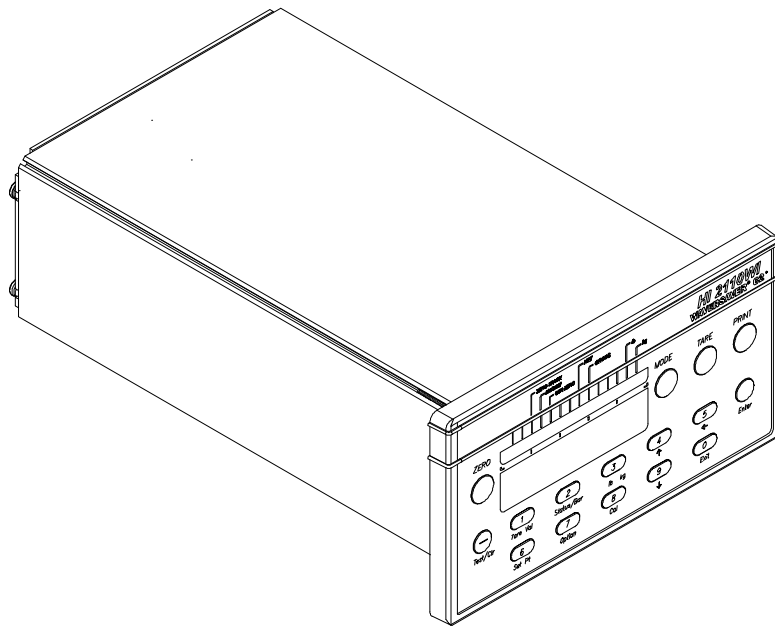

FIG. 1-1 WEIGHT CONTROLLER
The HI 2110WI is a compact, multipurpose, microprocessor based weight Controller. (See Fig. 1-1) The controller is used for a wide variety of process weighing applications including batching, blending, check weighing, filling/dispensing, force measurement, level by weight and weight rate monitoring. The HI 2110WI can transmit data via analog, serial or BCD communications. Data is displayed alpha-numerically on the six digit fourteen segment LED display. Weight values can be based on either Net, Gross, weight values in pounds or kilograms. An optional Allen Bradley Remote I/O and PROFIBUS interface is available for communication to programmable logic controllers. The 20 bit analog to digital converter in the weight controller updates twenty (20) times per second and is capable of 985,000 counts of display resolution. This gives the instrument the ability to tolerate large "dead"